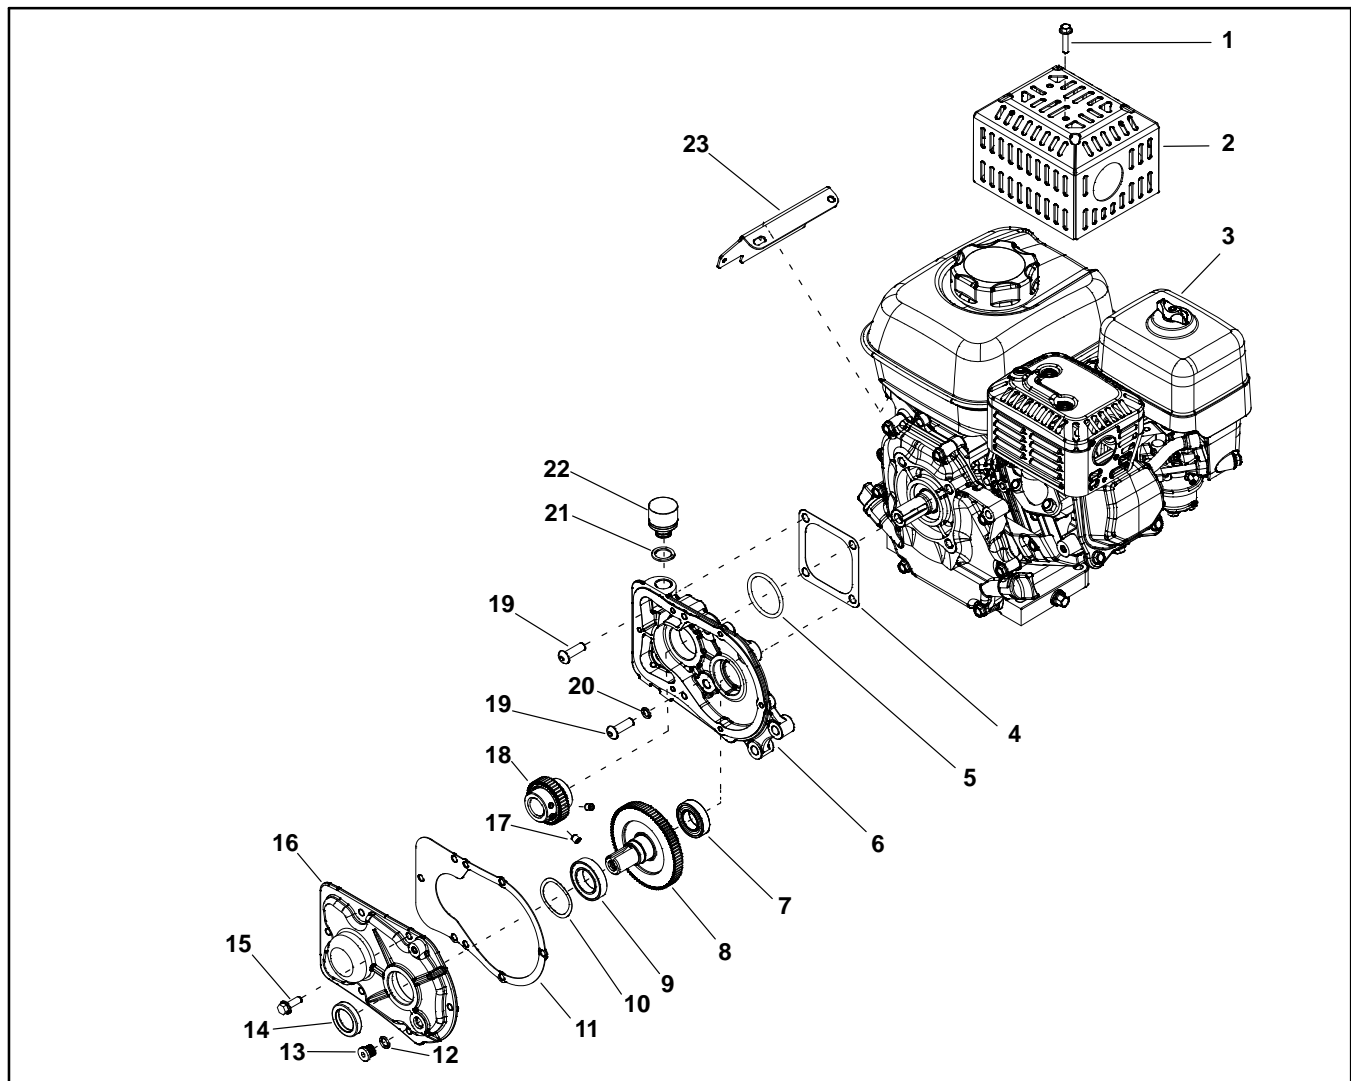

Figure 18
1. Using Fig. 18 as a guide and disassemble the gearbox assembly from the engine.
## Assembly (Fig. 18)